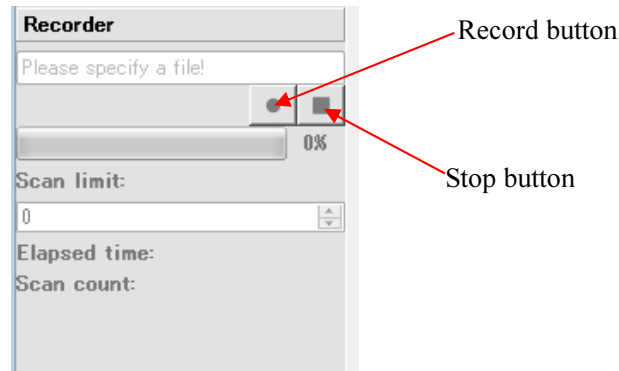

Figure 7-57(a) Data logging window
Enter the number of scans in the scan limit field (Figure 7-57) and click the record button. Application will automatically create the file click save. Change the file name and folder if necessary. Data recording will start and stops automatically when the specified scan count is completed. Click the stop button to terminate the recording before reaching the scan count.
e) Click "Event Recorder" to record the data just before and after the OSSD signal is triggered to OFF state (Figure 7-57(b)).